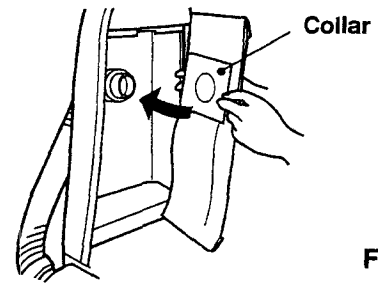

Fig. 16
- 3 Insert the new bag by pressing the collar opening completely around the suction inlet. (Fig. 16)